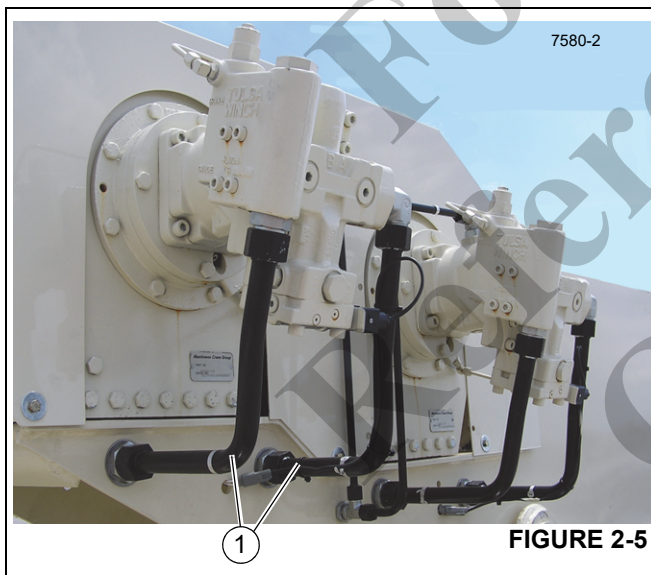

FIGURE 2-5
1. Disconnect the two work port hoses (1, Figure 2-5) at the hoist motor and cap the hoist motor ports.